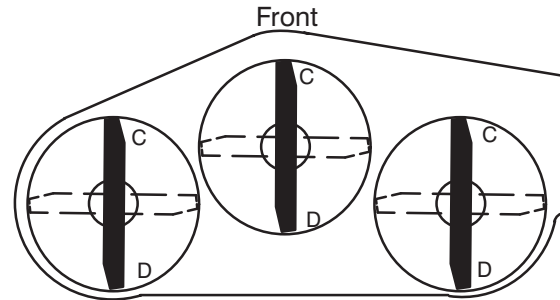
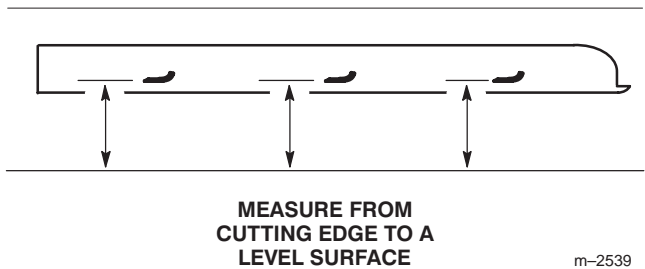

Figure 49
Figure 50
2. Position one blade front-to-rear (Fig. 49). Measure at "C" and "D" locations (Fig. 49) from a level surface to the cutting edge of the blade tips (Fig. 50).
4. Position the blades front-to-rear (Fig. 49). Measure at “C” and “D” locations (Fig. 49) from a level surface to the cutting edge of the blades (Fig. 50).